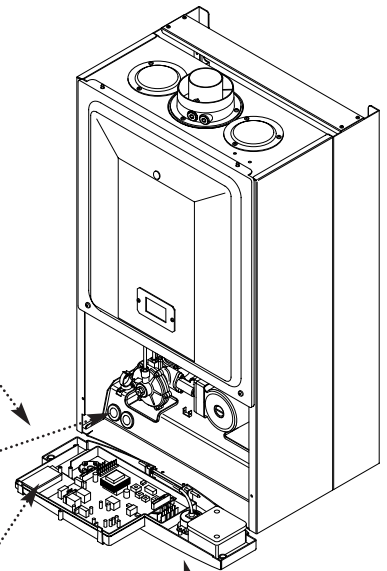

Fig. 35
2. Undo the screws securing the fascia panel and hinge it down (Fig. 35).